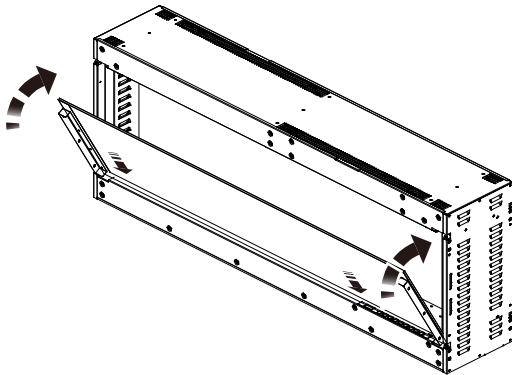

FIG. 1
- Have 2 people lift the glass up. Place the bottom side of the glass into the appliance and then pivot it until the glass is touching the side panel (FIG. 1).